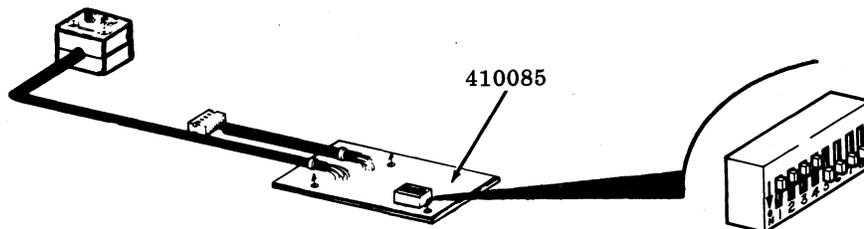

Fig. 26
2.63 When the printer utilizes the OEM interface, the proper baud rate must be selected to coincide with the baud rate of the data received. If a 410076 printer logic circuit card is used, the 346745 modification kit must be installed. This allows the OEM baud rate to be programmed on the 410085 circuit card (Fig. 26).
410085 Circuit Card (Fig. 26) (OEM) Required only if Option 57b on 410076 card is selected. ¶¶